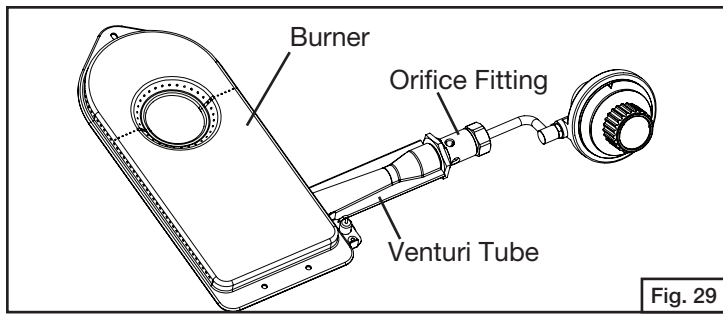
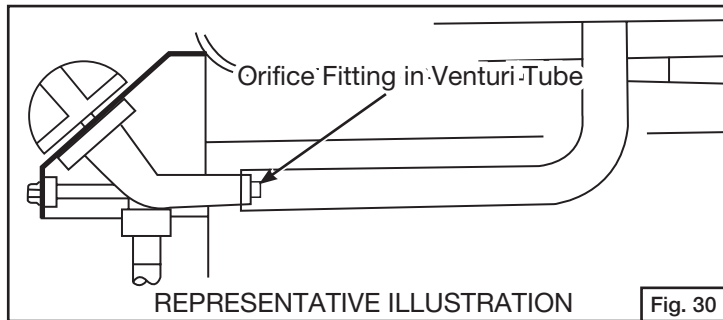

Fig. 29
Fig. 30
7. Make sure the orifice fittings are inside the venturi tube, then tighten all self tapping screws. (Fig. 29 and Fig. 30)